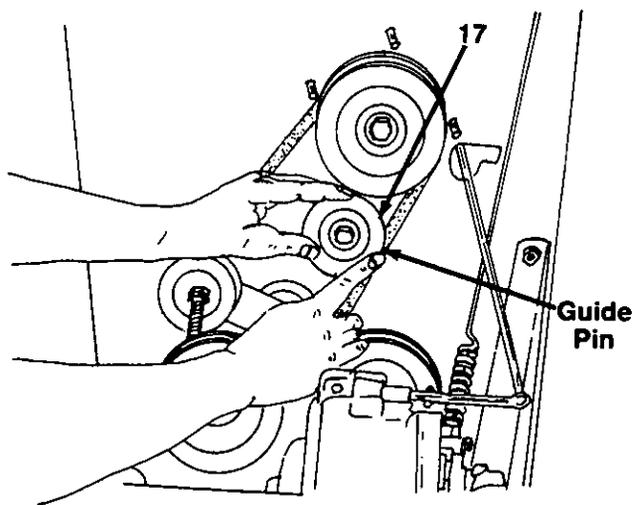

FIGURE 11.
13. When sliding the idler pulley on the idler bracket, be certain the belt is between the pulley and guide pin. See figure 11.